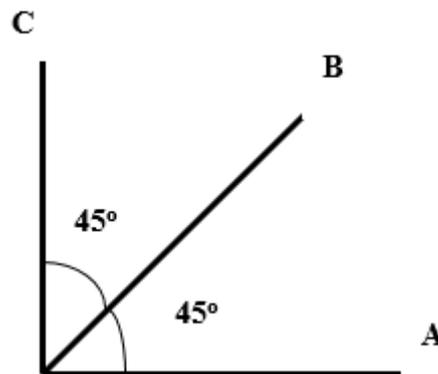

Figure Q5 45° rectangular strain gauge rosette
- Q5 **Figure Q5** shows a 45° rectangular strain gauge rosette which is bonded to the surface of a steel structural member.